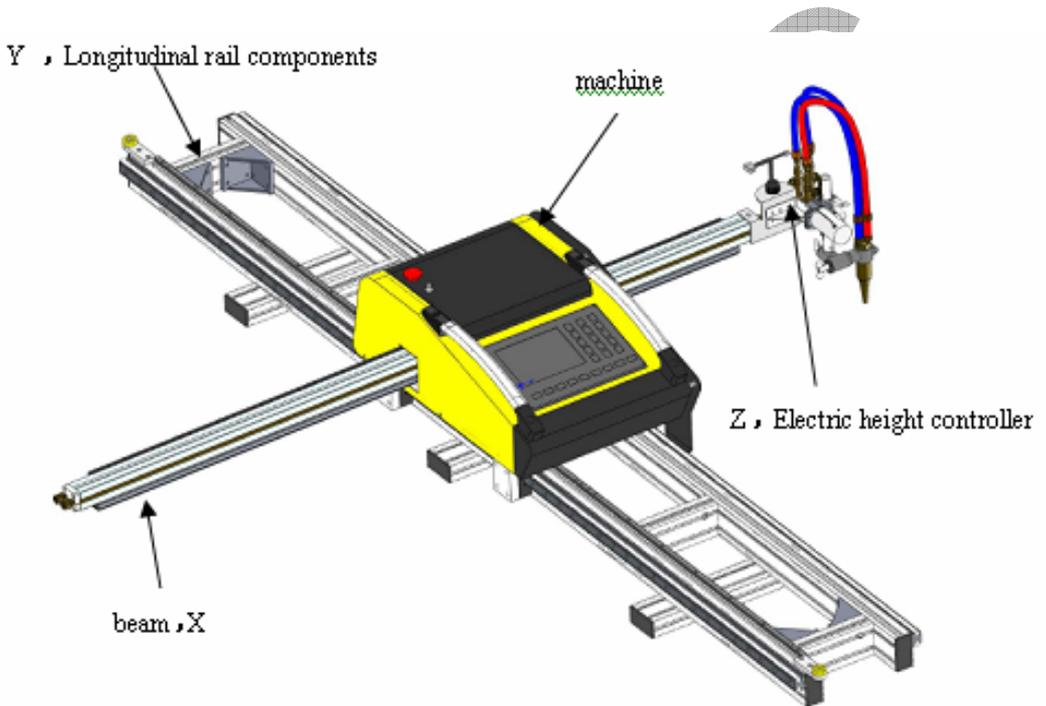

Fig 4-5
meshing, as Fig 4-5, Mechanical transmission structure of machine(X、 Y、 Z) is finished. Installation confirm, testing by the same way as the machine installation.
connector (NO.②), as the Fig 4-5.